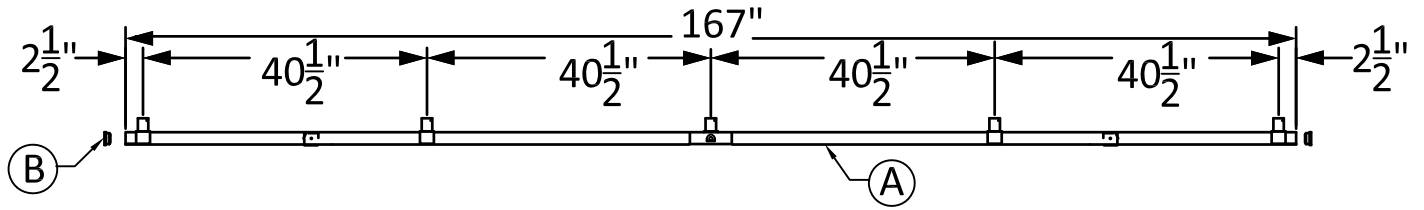

FIGURE 8-1
8.1.1 Scope. – Figures 8-1 through 8-17 provide dimensional sketches of items 2 through 18 along with an individual parts list for each item. These standard structural parts (Item 2 through 18) are also listed in Table 1-1.
8.1.2 Arrangement. – The parts lists included with Figure 8-1 through 8-17 contain a list of parts that are included with each item. The Ref. Des. (Reference Designation) refers to a letter identifying the part on the adjacent sketch unless it is a piece of hardware, in which case it may not be identified on the sketch. The Quantity column lists the number of each part required for that particular item. The Description and Material columns provide the general terminology for each part and the substance which makes up the majority of the part. The Jaquith Pt. No. column lists the identifying number to be used when ordering parts through Jaquith Industries, Inc. These Jaquith Part Numbers are given only to parts which, it has been determined, would commonly be ordered as replacements and would not be readily available through local sources. Table 8-1 lists these commonly ordered parts.